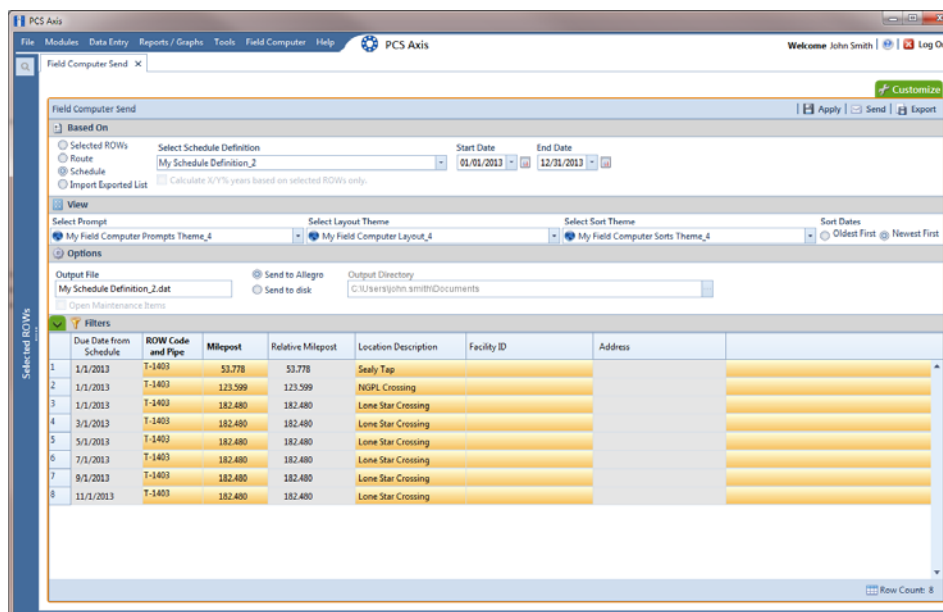

Figure 13-27. Select Layout Theme
- 14 To apply the new layout theme to the grid, click the down arrow in the field **Select Layout Theme** and select the layout theme in the selection list. Then click  **Apply** to update the grid (Figure 13-27).